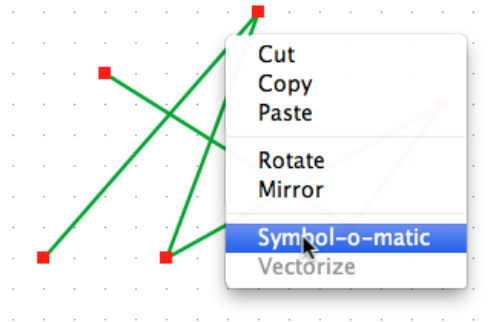

Figure 2.22.: The pop-up menu appearing with a right click allows to transform drawing elements into a symbol
- Select what you just drawn and right click on it. A popup menu will appear, such as in figure 2.22.